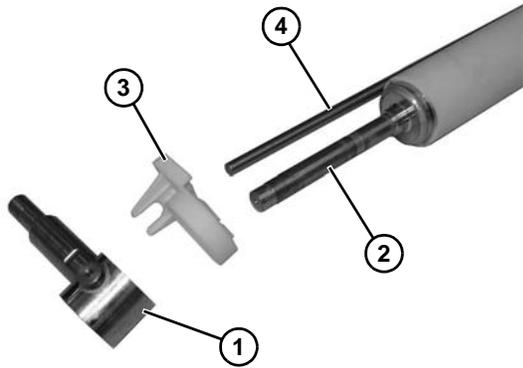

Figure 63
- Slide the motor support bracket (Figure 63, item 1) off the drive spindle (Figure 63, item 2).
- Remove the pinch guard (Figure 63, item 3) from pinch guard shaft (Figure 63, item 4) and drive spindle.